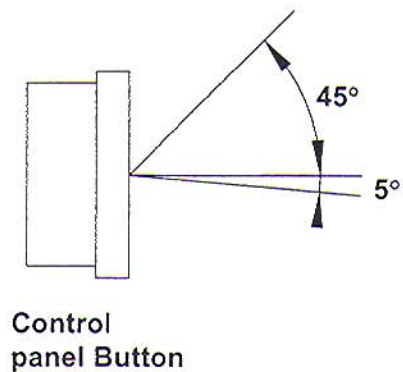

Figure 2
- * The control panel's LCD's are designed to be clearly visible within the angles shown in Figure 2. Mount the control unit so that the visual angle is within this range.